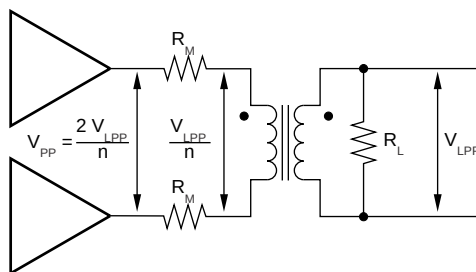
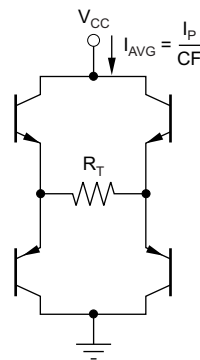

Figure 85. Driver Peak Output Voltage
Figure 88. Output Stage Power Model
- R_M is as defined in Equation 7 and Figure 85
- (13)
The total internal power dissipation for the THS6212 in a line-driver application is the sum of the quiescent power and the output stage power. The THS6212 holds a relatively constant quiescent current versus supply voltage—giving a power contribution that is simply the quiescent current times the supply voltage used (the supply voltage is greater than the solution given in Equation 15). The total output stage power can be computed with reference to Figure 88.
The two output stages used to drive the load of Figure 85 are shown as an H-Bridge in Figure 88. The average current drawn from the supply into this H-Bridge and load is the peak current in the load given by Equation 13 divided by the crest factor (CF) for the signal modulation. This total power from the supply is then reduced by the power in R_T , leaving the power dissipated internal to the drivers in the four output stage transistors. That power is simply the target line power used in Equation 8 plus the power lost in the matching elements (R_M). In the following examples, a perfect match is targeted giving the same power in the matching elements as in the load. The output stage power is then set by Equation 17.